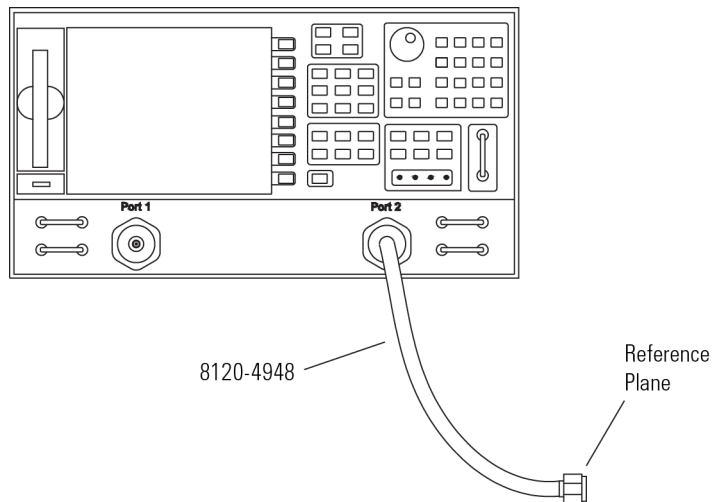

Figure 18 SMA Cable Connected to Port 2
- 13 Connect the other high quality SMA cable to the VNA's **PORT 2** as shown in Figure 18.